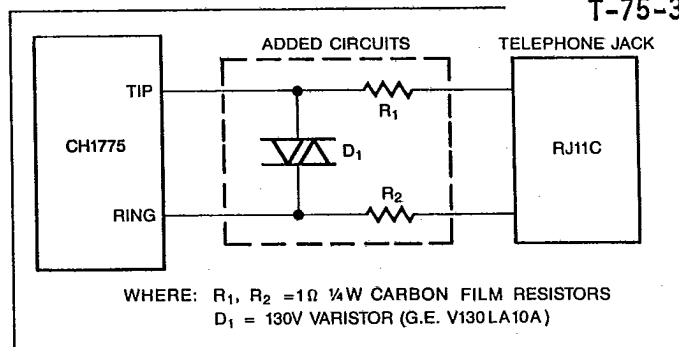

Figure 2. Additional Circuitry Needed for Canadian DOC Registration
- 6) No additional circuitry other than that shown in Figure 2 may be connected between the modem module and the RJ-11C jack.